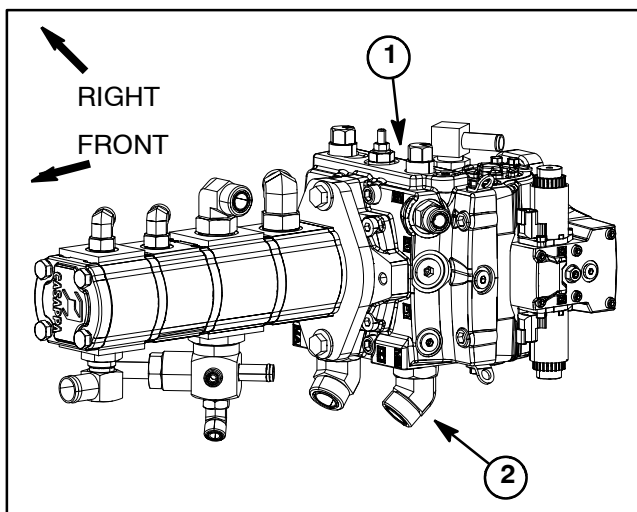

Figure 62
3. Thoroughly clean junction of hydraulic hose and **left** side fitting on bottom of piston (traction) pump (Fig. 62). Disconnect hose from left side pump fitting.